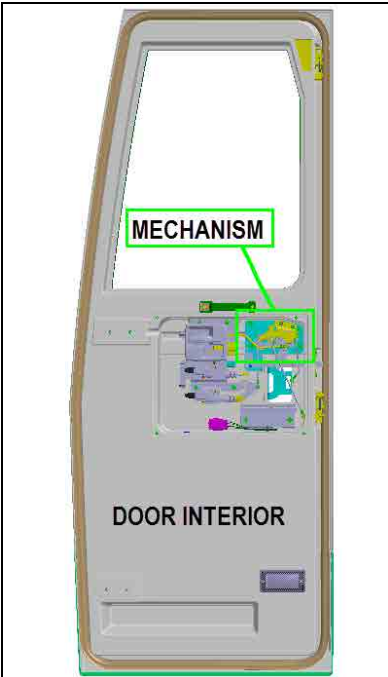

Fig.1
- 2. Locate the door locking mechanism and the five actuating rods connected to it (see Fig.1 and 2 below).